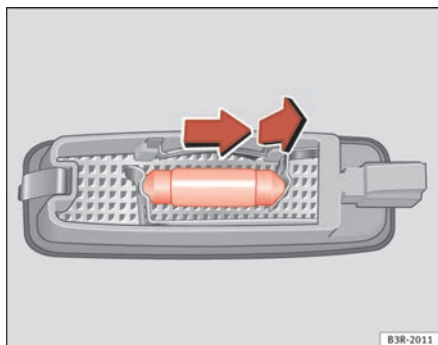

Fig. 224 Removing sunroof light
- Remove the bulb, moving it in the direction of the arrow and outwards ⇒ fig. 224. ■